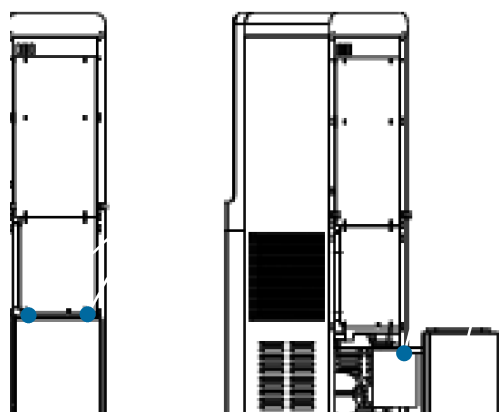

Figure 13 · Drain the tanks completely and refit the caps
7. Remove the plastic cap and the rubber stopper and empty the tank completely. The water that flows out can be used for consumption; if it is not to be drunk, dispose of it (Figure 13).